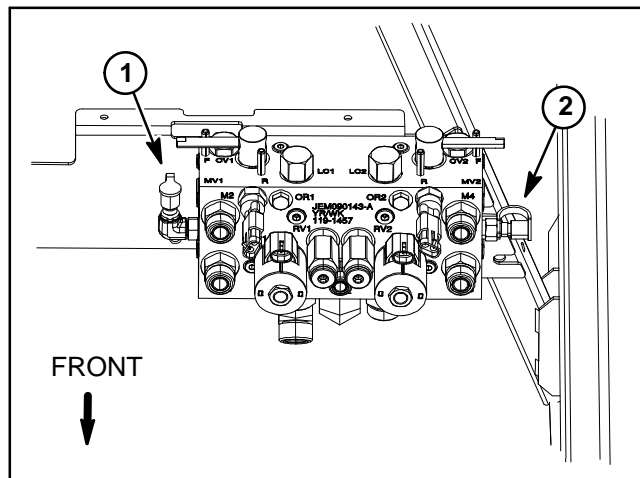

Figure 37
4. Install 5000 PSI (350 bar) pressure gauge with hydraulic hose attached to mow control manifold test port for the mow circuit (front or rear cutting units) to be tested (Fig. 37). Manifold test port G1 should be used for the front reel circuit and G2 should be used for the rear reel circuit.